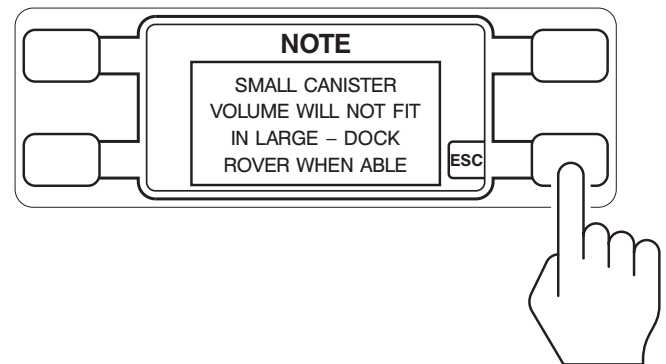

Figure 31 To Acknowledge Need to Dock Rover
**NOTE:** If the 20-liter canister has insufficient capacity to receive the 4-liter canister fluid, a screen will appear indicating the rover will require shutdown and docking to empty its full canisters. Push the button next to the ESC icon to acknowledge the need to dock the rover (Figure 31).